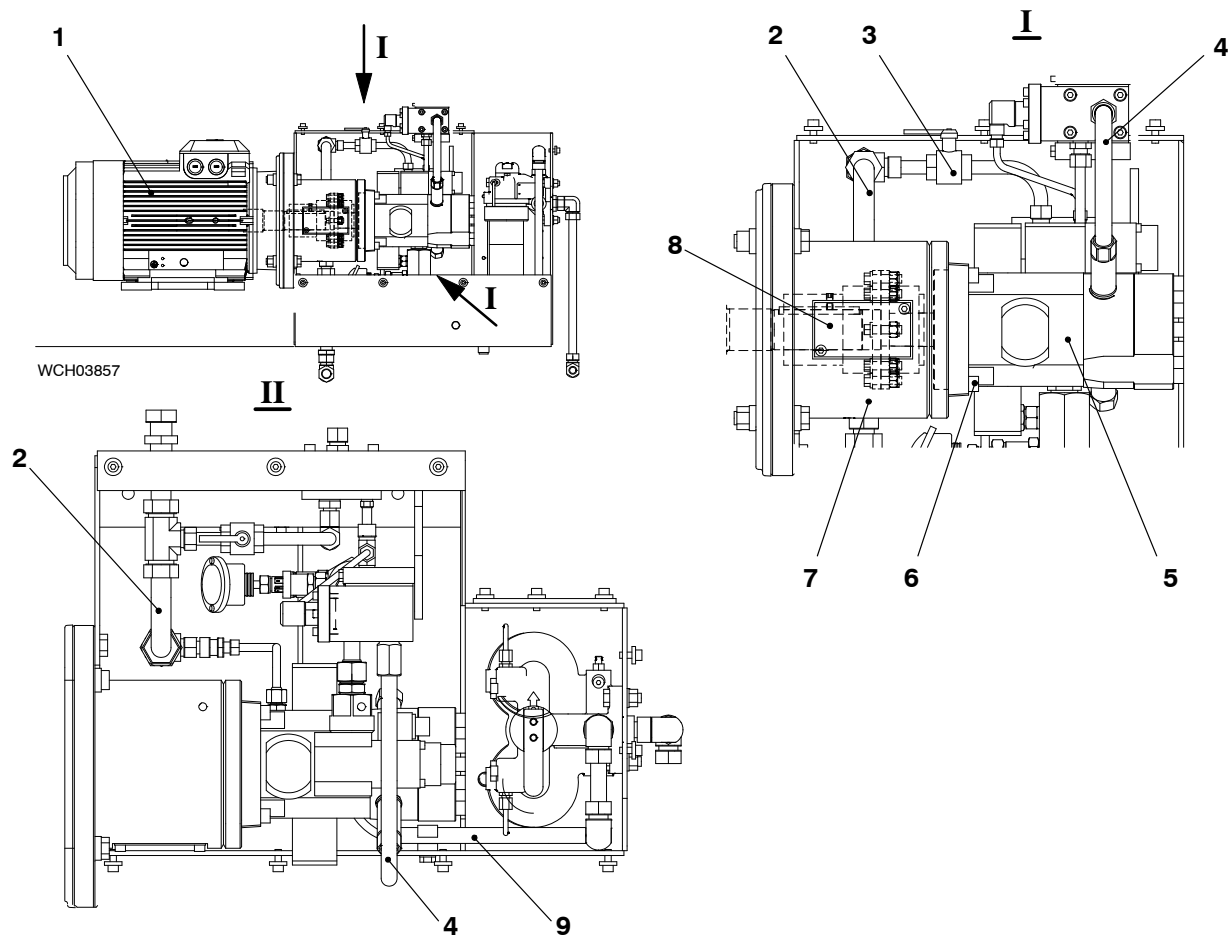

Fig. 1
- 2) Make sure that the pilot fuel pump (5, Fig. 1) has stopped.
- 3) Disconnect the electrical connection from the electric motor (1).
- 4) Close the stop valve (3).
- 5) Remove the pilot fuel pressure pipe (4).
- 6) Remove the pilot fuel return pipe (2).
- 7) Remove the fuel inlet pipe (9).
- 8) Hold the weight of the pilot fuel pump (7).
- 9) Remove the four Allen screws (6).
- 10) Remove the pilot fuel pump (5) from the electric motor (1).